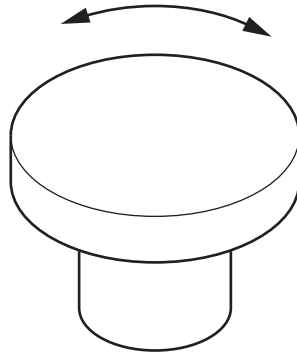

Fig. 4
- 5 Fig. 4 shows a handle made from metal.
Add sketches and notes to Fig. 4 to show a modification to the handle that would make it easier to grip and turn. [2]